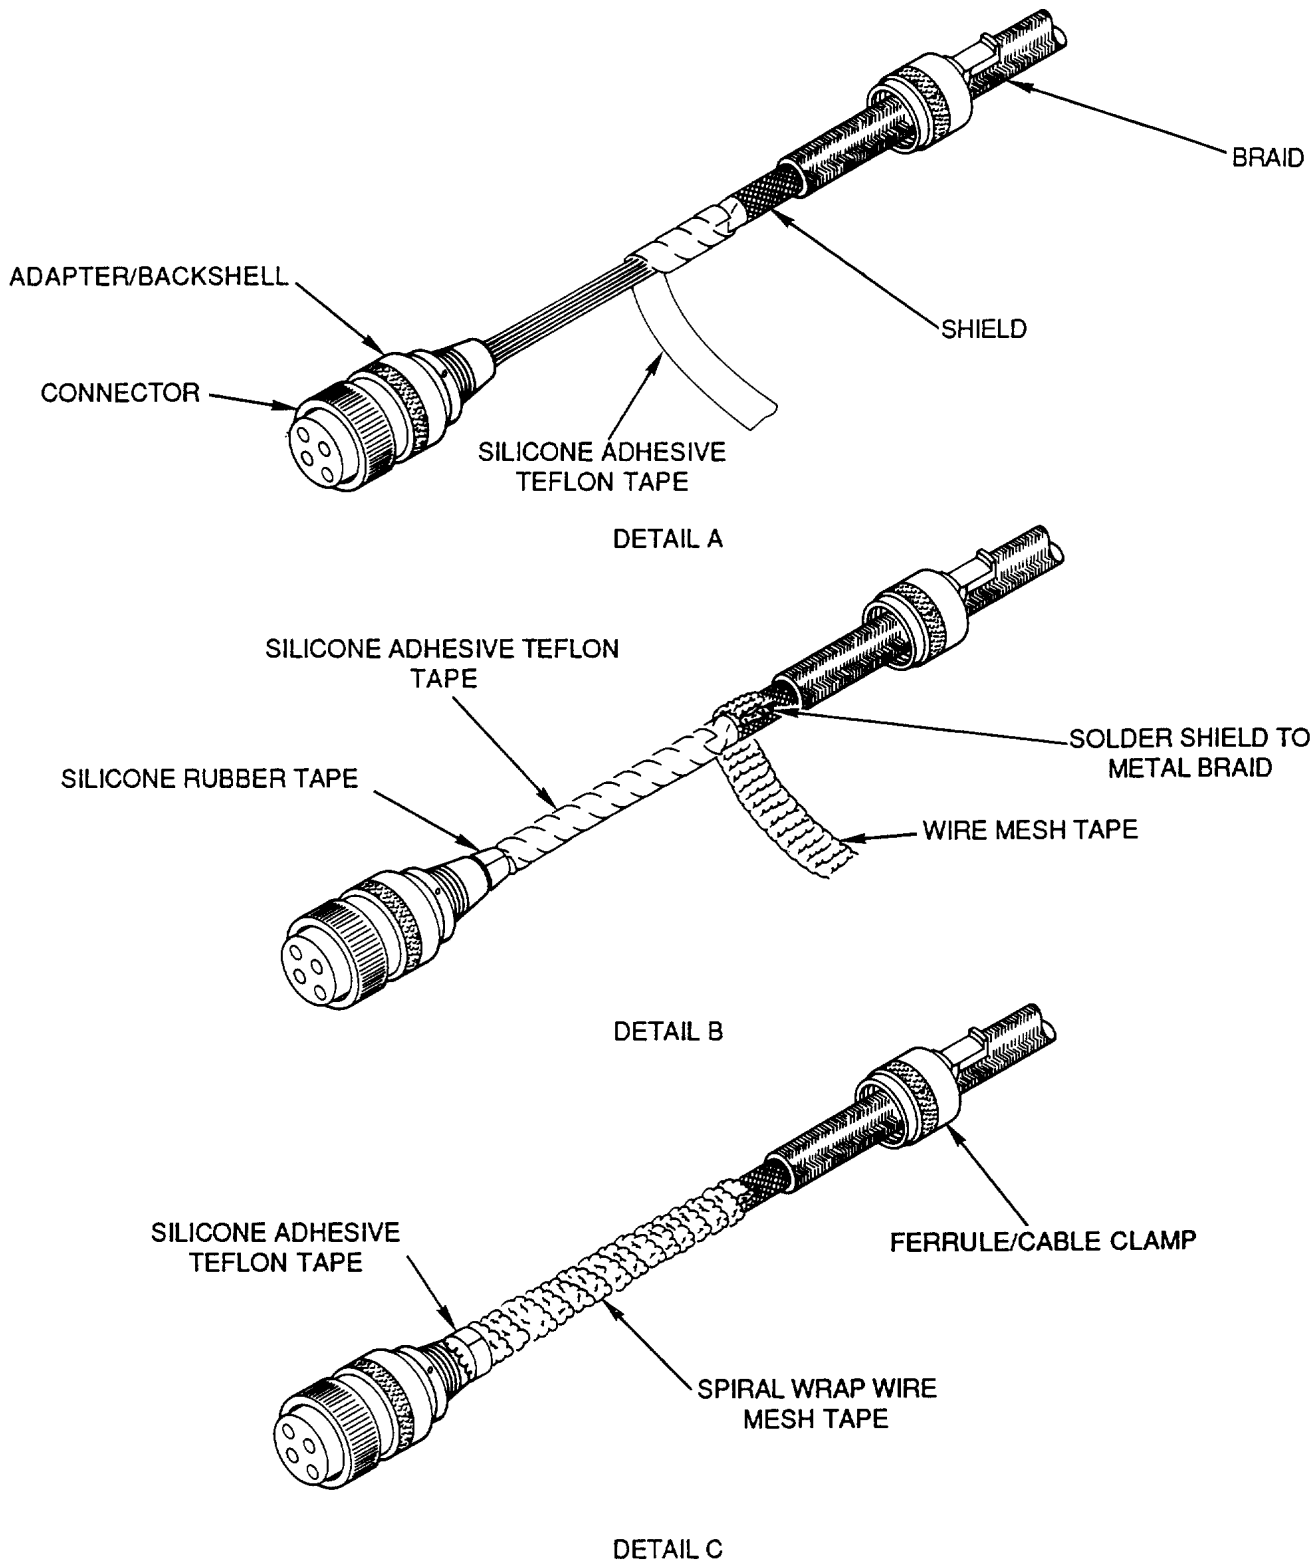

Figure 18. Fabrication of Harness Terminated with EMI Backshell (Sheet 1 of 2)
m. Secure silicone rubber tape end with polyester lacing tape (Figure 18, Detail F).